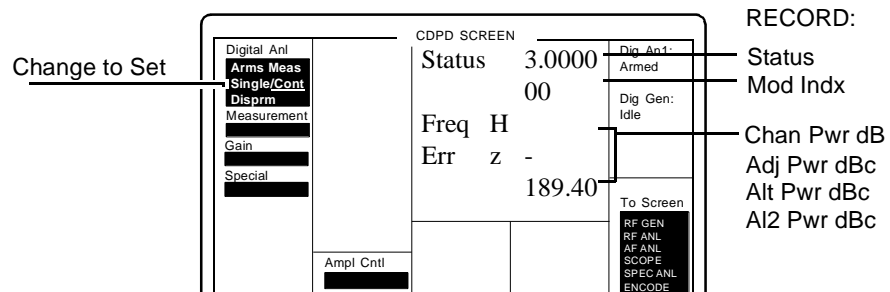

Figure 72 CDPD SCREEN
- c. Set **Digital An1** to **Cont**, see figure 72.